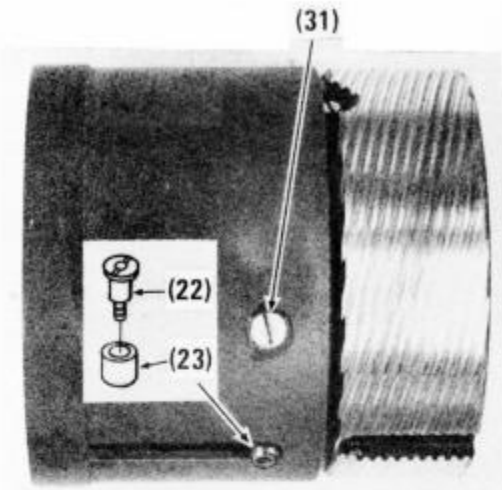
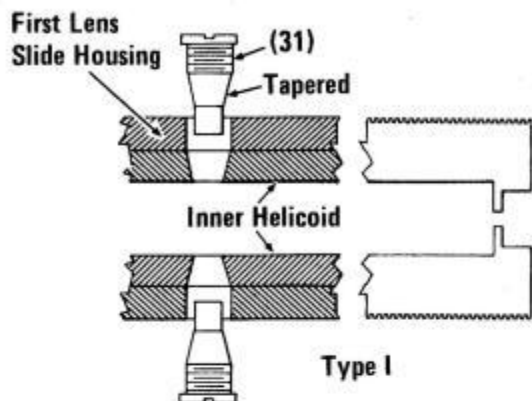

FIG. 4-13
FIG. 4-21
a) Remove 1st lens group slide screw (31) two places. Use tool No. 3650533 to remove 2nd lens group slide shaft (39) and roller (38) (two places). Fig. 4-13.
There are two types of inner helicoids used in the lens. In Type I the edges of the first lens group cam slot, and the sides of the slide screws (31) are beveled. Fig. 4-21.
- g) Install 1st lens slide screw (31) in its mounting hole, through first lens cam slot in inner helicoid and into long slot in 2nd lens slide housing. Repeat for other side of lens. Fig. 4-13.
h) Adjust the depth of slide screw (31) in the assembly as follows:
1. Type I Helicoid. Fig. 4-21.